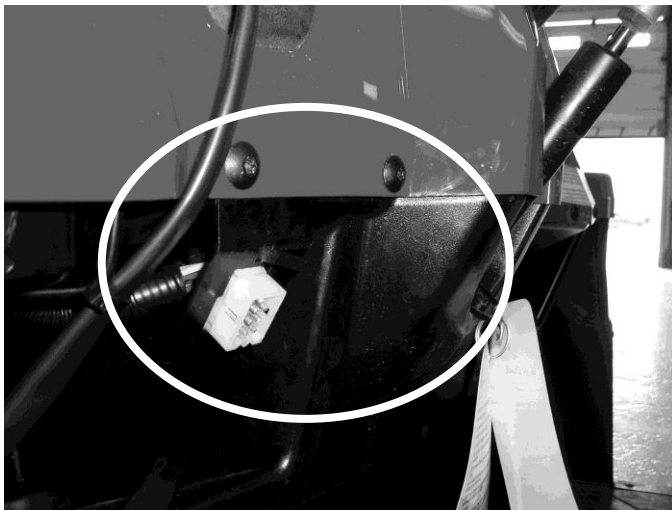

Figure 8. Dash Bracket w/ Molex Plug & Cap G10526
1. Pull the 9 Pin Molex connector (G) from under the hood, into the cab.
2. Secure the 9 Pin Molex Connector (G) to the left of the steering wheel using two self tapping bolts and provided dash bracket. (Some vehicle use existing hardware. See figure 8)